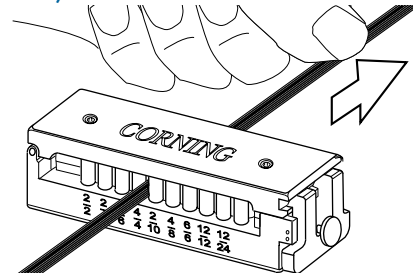

Figure 11
- Pull the ribbon through the tool until you reach the marked separation length or the first mark on the ribbon, whichever is closest to the end of the ribbon (Figure 11).